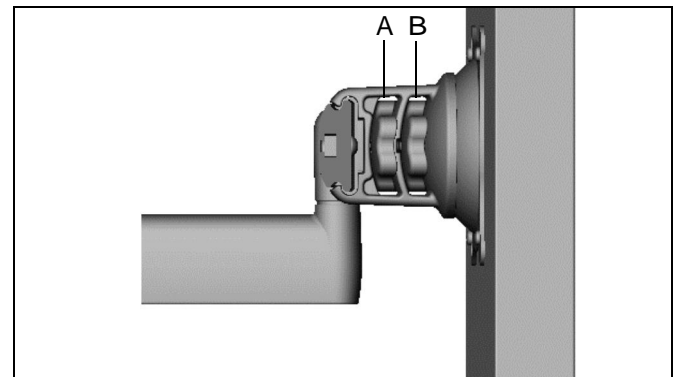

Figure 10
- Using your fingers, slightly loosen adjustment knob "A". (See Figure 10)
- Using your fingers, slightly loosen adjustment knob "B" (See Figure 10).